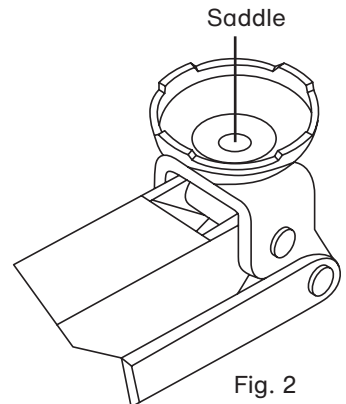

Fig. 2
3. Roll the trolley jack under the vehicle to be raised, below the lifting points designated for the trolley jack (note the specifications of the vehicle manufacturer). If necessary, you can remove the height adapter from the bracket at the left side of the trolley jack and insert it in the saddle (Fig. 2). This increases the lifting height by 90 mm.